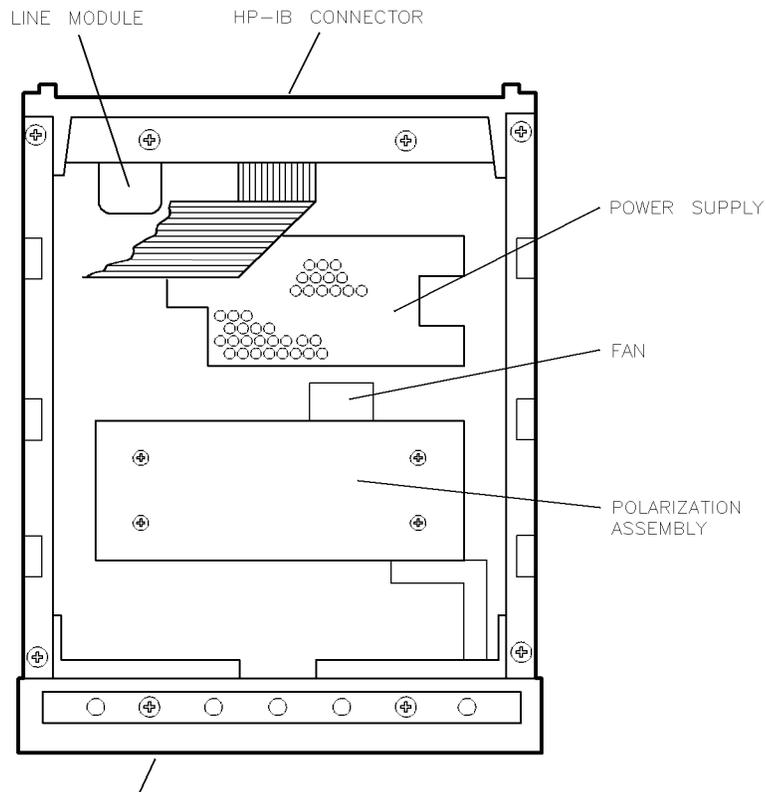

Figure 5-1. Agilent 11896A assembly level replaceable parts.
- Locate the desired assembly in Figure 5-1.
Refer to Figure 5-1 for the location of the assembly level replaceable parts.